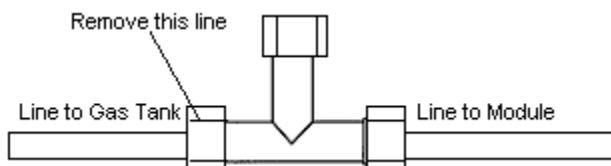

Figure 51. Gas Line
- 4 If gas drying is being used, turn off the gas and then disconnect the gas lines for the modules that are being relocated (see Figure 51), and attach plugs to those positions.